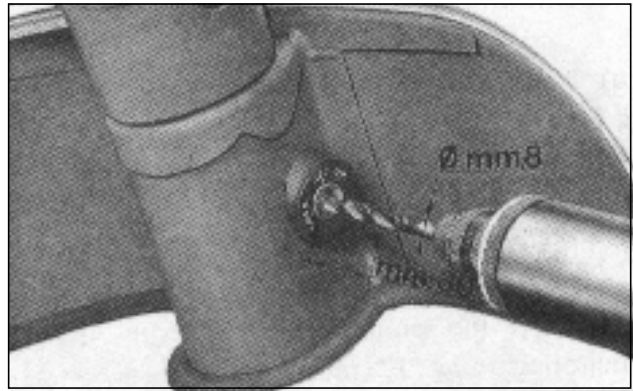

Fig. 210 - Drilling of lock barrel
- (a) For replacing these parts act as we have described in fig. 210. First dismantle barrel in case of key mislay when the security lock is in the 'LOCK' position. (by drilling barrel).